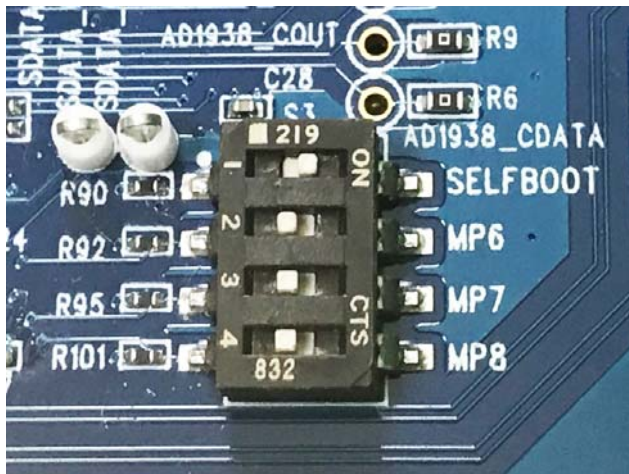
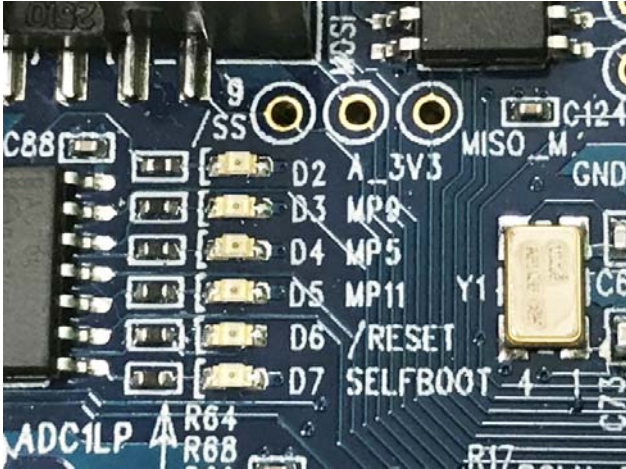

Figure 67. Self Boot EEPROM and Slide Switch
Figure 76. Status LEDs
A 1 Mb, 20 MHz, SPI, serial EEPROM memory is included on the EVAL-ADAU1452REVBZ evaluation board. The ADAU1452 can boot and execute a program without help from an external microcontroller. This self boot feature allows any project developed within SigmaStudio to execute on a rising edge of the RESET pin signal or when the ADAU1452 powers up. Section 1 of the S3 DIP switch (see Figure 67) sets the state of the ADAU1452 SELFBOOT pin. Setting Section 1 of the S3 switch to off disables the self boot feature. LED D7 illuminates when the EVAL-ADAU1452REVBZ board is set to self boot (see Figure 76).
1. Set the **SELFBOOT** switch (Section 1 of S3) to the enabled position on the EVAL-ADAU1452REVBZ board (see Figure 67).
Six status LEDs provide information about the state of the EVAL-ADAU1452REVBZ evaluation board (see Figure 76 for LED locations). For more information about the status LEDs, see Table 6.